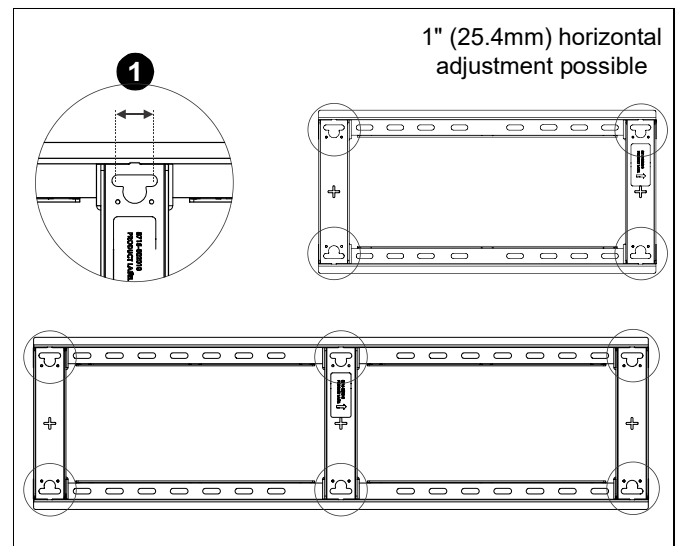

Figure 15
1. The mount wall brackets may be adjusted side to side at the point of attachment. (See Figure 15)